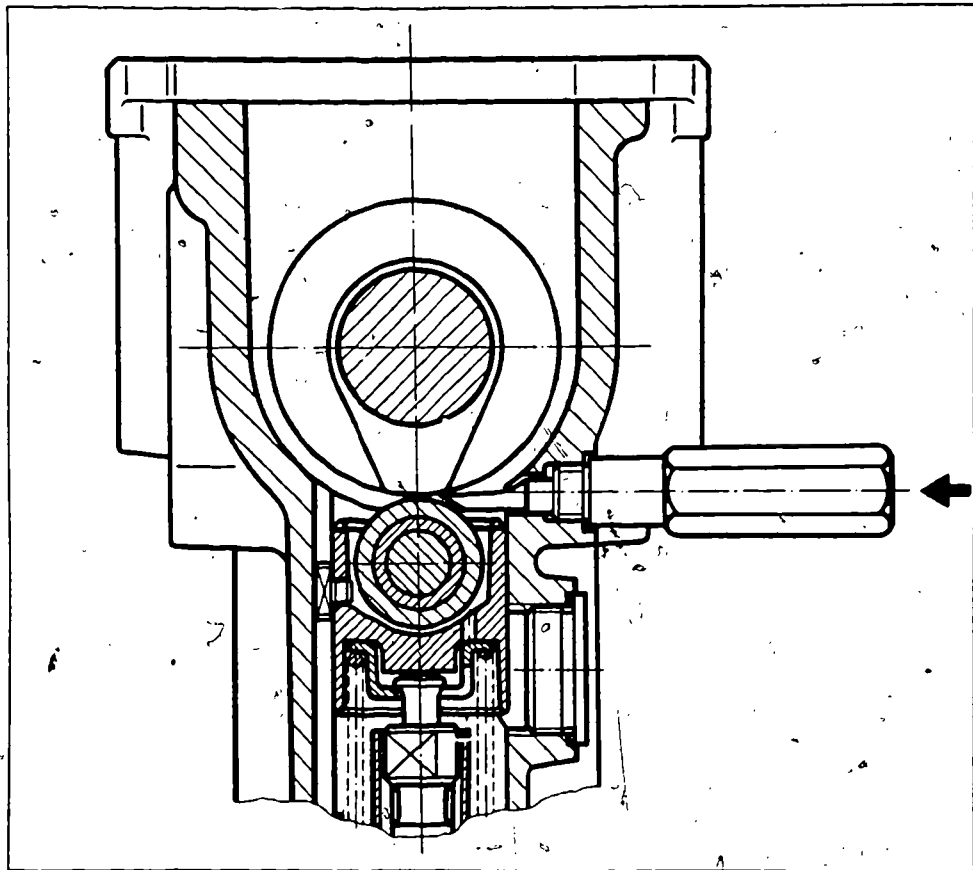

Fig. 2
It must be ensured that during insertion the radius of tappet holder (1) faces the cam and is held in this position until guide sleeve (2) has been screwed in (see also Fig. 2).